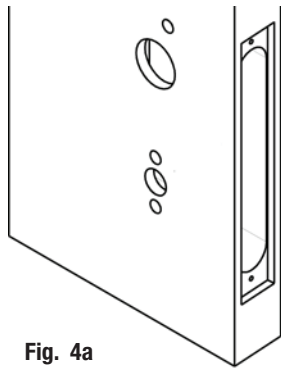

Fig. 4a
- Feed wires through 1-5/16" diameter hole on INSIDE of door while installing lock body (Fig. 4a).
- Install, but do not tighten two #12 x 1" combination screws through lock body (Fig. 4a).